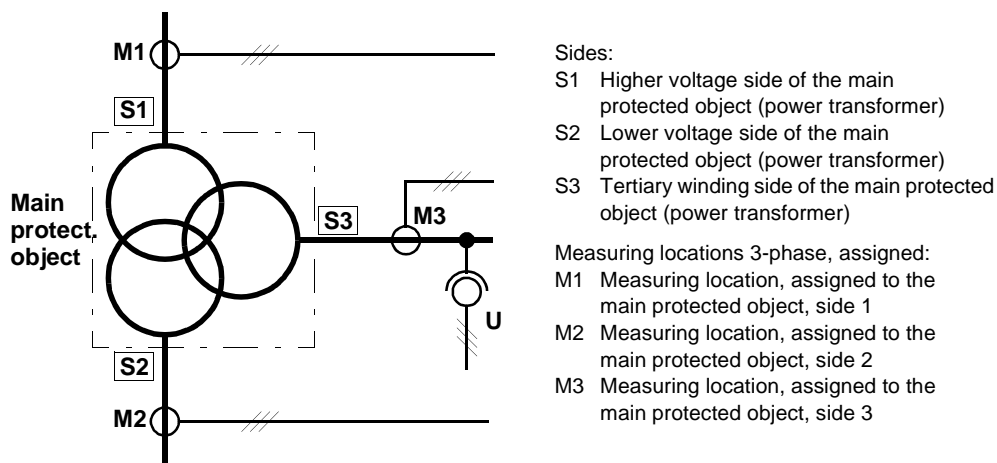

Figure 2-3 Example of a topology on a three-winding transformer
Of course, the number of sides can be equal to the number of measuring locations (but never greater). The example in Figure 2-3 shows a three-winding power transformer with one set of current transformers at each side. In this example: **No AssigMeasLoc** = 3 and **NUMBER OF SIDES** = 3.
- **M1, M2, M3**, i.e. the 3 measuring locations are assigned: M1 to side S1, M2 to side S2, M3 to side S3. This corresponds to the examples in Figures 2-3, 2-5, and 2-6.